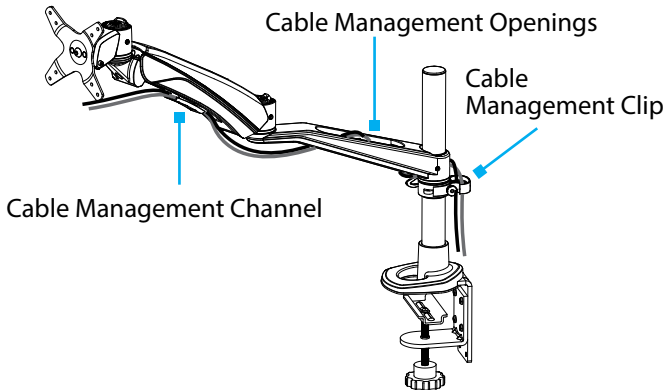

Figure 22
2. Route the **Cable(s) Through** the **Cable Management Clip** at the back of the **Pole**. (Figure 22)